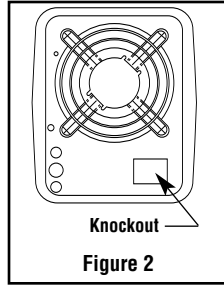

Figure 2
2. The power disconnect kit is to be installed in the rectangular knockout located in the bottom right corner on the back of the heater (Figure 2). The knockout can be removed using a hammer and chisel or other appropriate means.